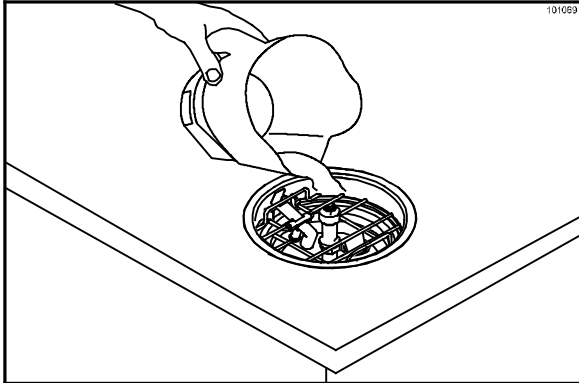

Figure 122
**CAUTION: Water temperature must not exceed 140°F (60°C).** (See Figure 122.)